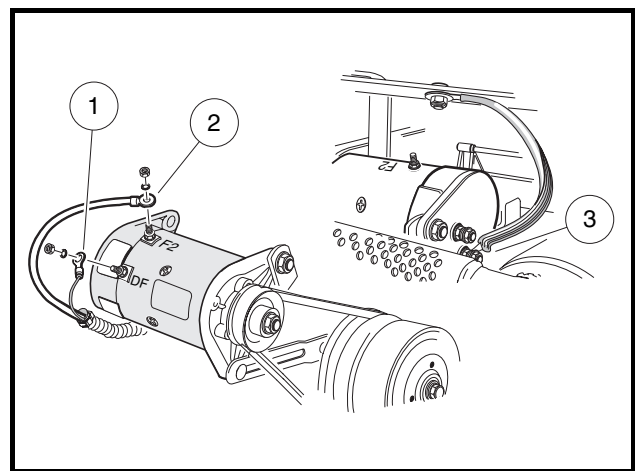

Figure 19-44 Starter/Generator
21. Connect the 6-gauge white wire to the F2 post, the 6-gauge black ground wire to the A2 post and tighten both wires to 48 in-lb (5.4 N·m). Connect the 16-gauge yellow wire to the DF post on the starter/generator and tighten to 30 in-lb (3.4 N·m) (**Figure 19-44, Page 19-16**).